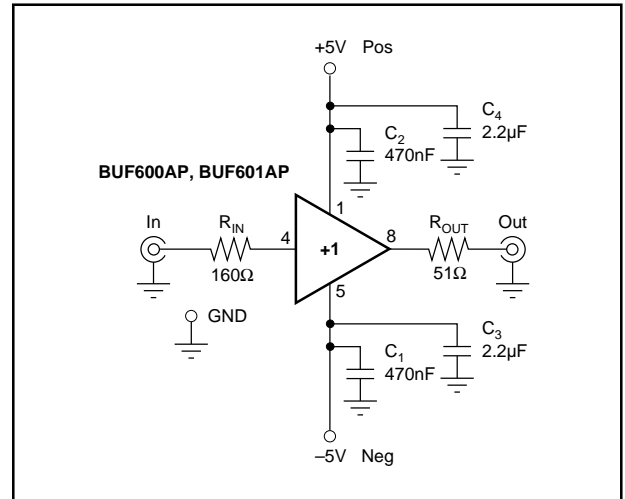

FIGURE 2. Test Circuit.
8. CORNER LEADS (1, 4, 5, AND 8) MAY BE CONFIGURED AS SHOWN IN FIGURE 2.